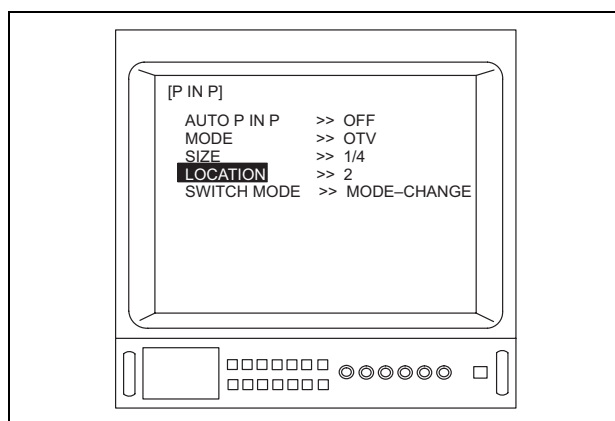

Figure 5.126
7. Depress the menu switch “” or the “Enter” key on the keyboard to adjust the “LOCATION” (see Figure 5.126).